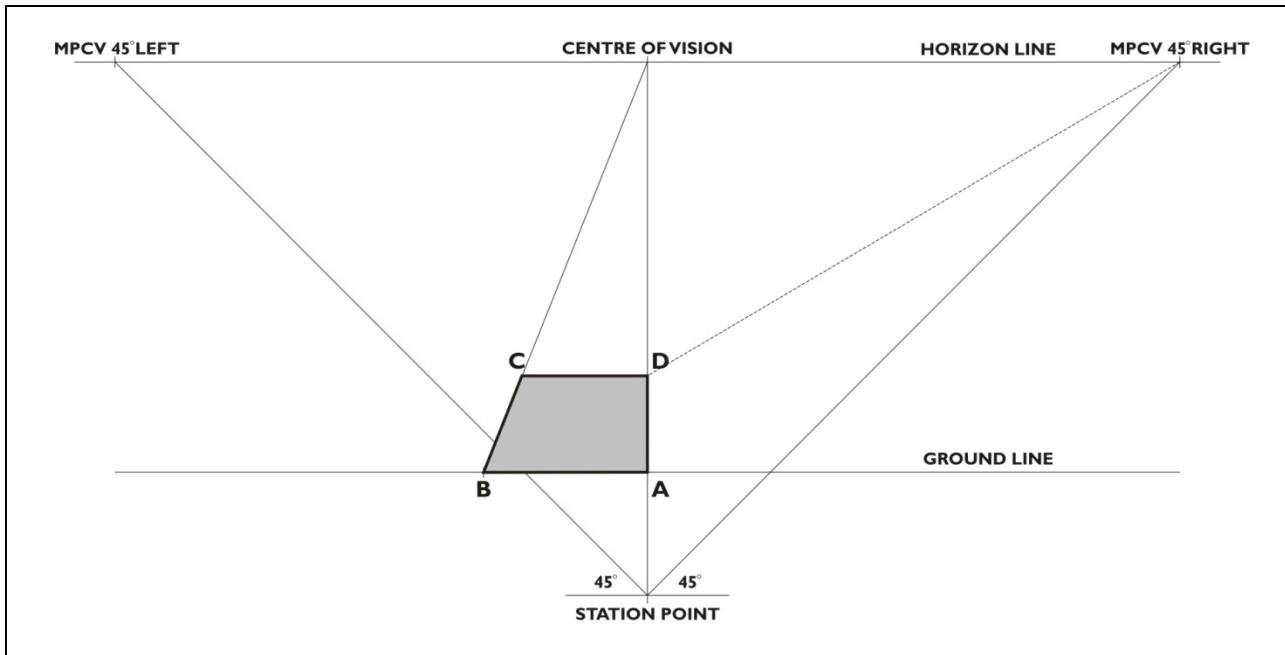

Figure 2.7 One-point perspective drawing of a square
1. Measure the length of the square (40 mm) from point A and establish point B on the Ground Line. Refer to Figure 2.7.